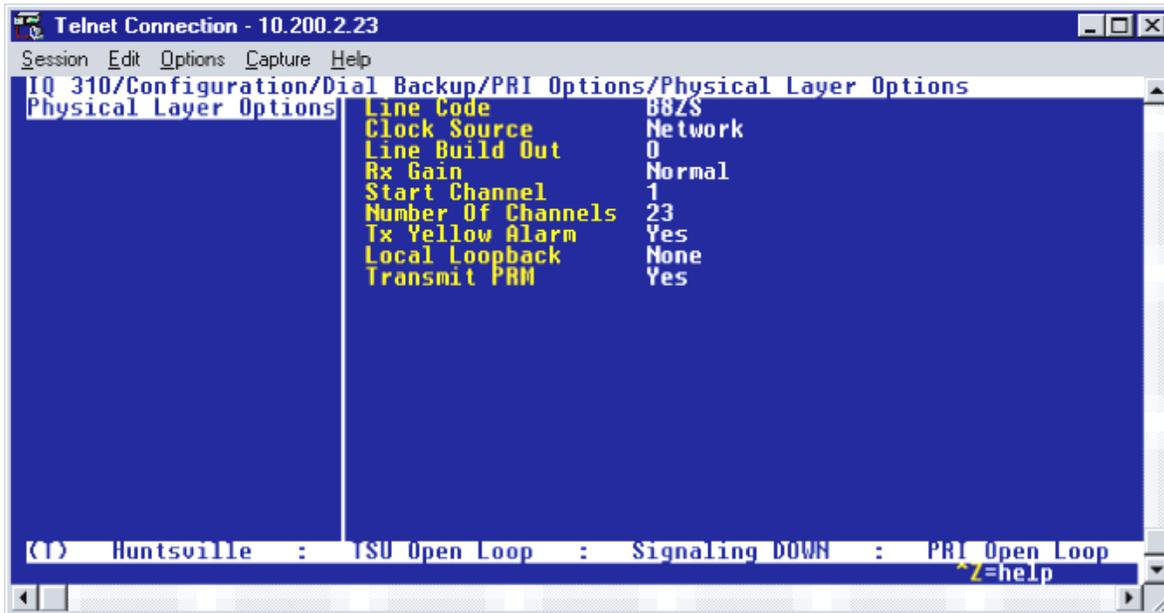

Figure 11. Physical Layer Options Menu
2. Use the right arrow to select **PHYSICAL LAYER OPTIONS**; then press **<ENTER>**. The screen shown in Figure 11 will appear.